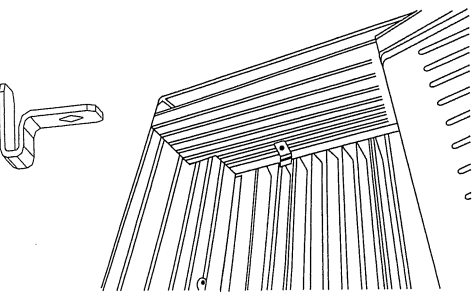

Fig. 18C
3. Attach the Lock Frames to the winow sill using two 3/4" (19mm) screws (Fig. 18C) (on some models).